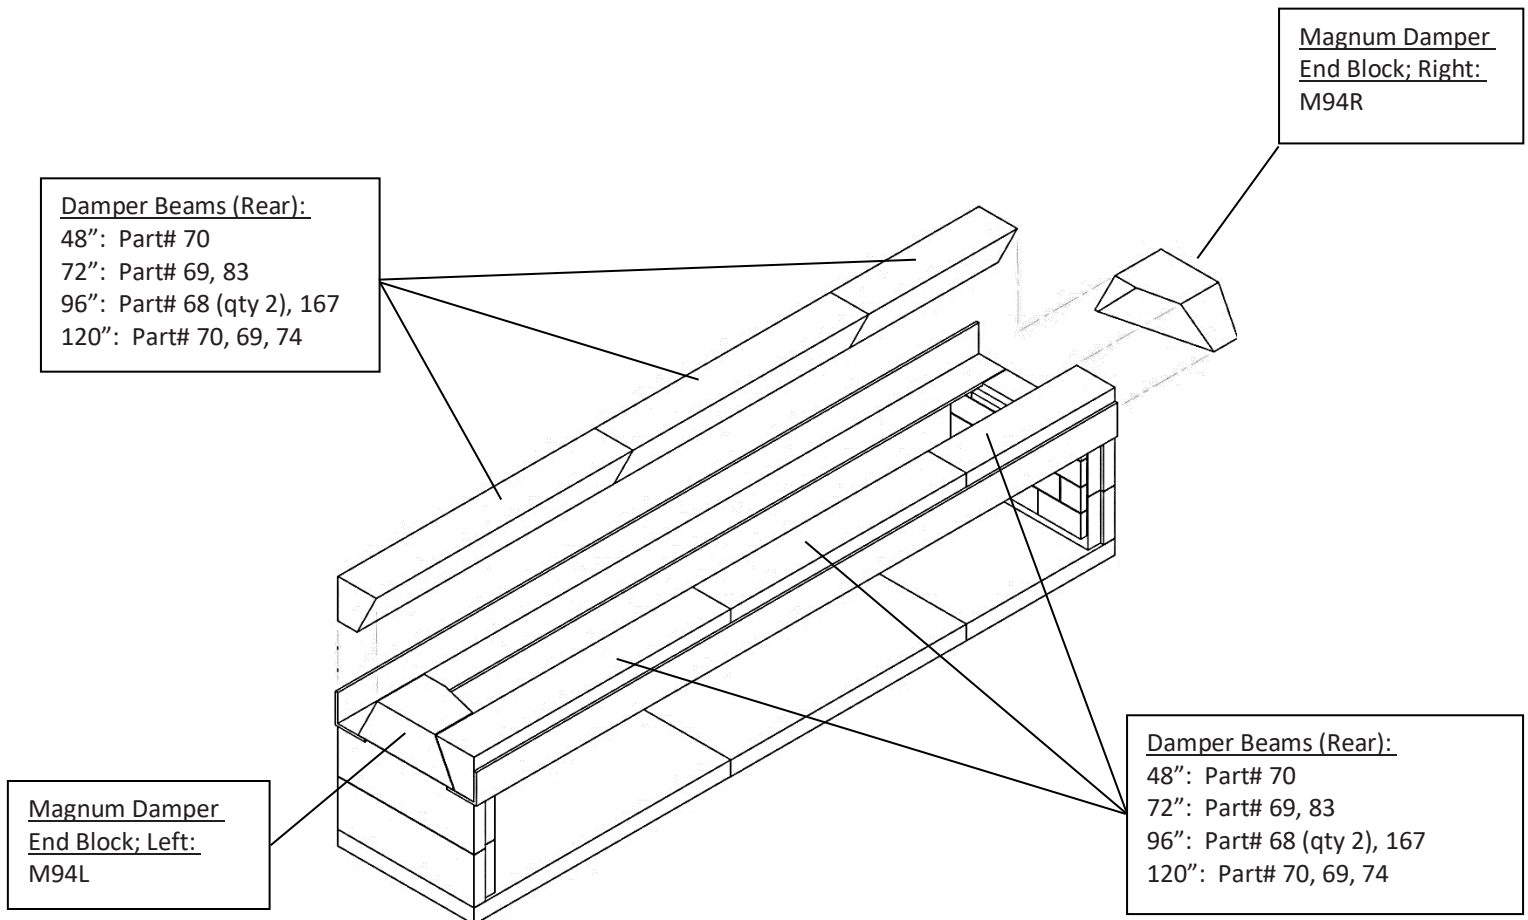

FIGURE 12
- 6) The fireplaces come with an 8"-thick damper beam assembly, a component group that is to be assembled on top of the firebox side walls and steel angle iron (no steel angle iron in 48" model). The damper beam assembly consists of long lintel pieces and two (2) short damper end blocks. The lintels will be equal to the width of the fireplace model that they serve. These components both sit on their narrow base so that their beveled face points down and into the firebox interior (**Figure 12**).
The damper end blocks are designed to sit on the firebox side wall between the front lintel and the back lintel. Each of the damper end blocks are designed for a specific side of the unit. When properly set, the vertical face of each damper end block will be flush with the outside face of the firebox side wall (**Figure 12**).